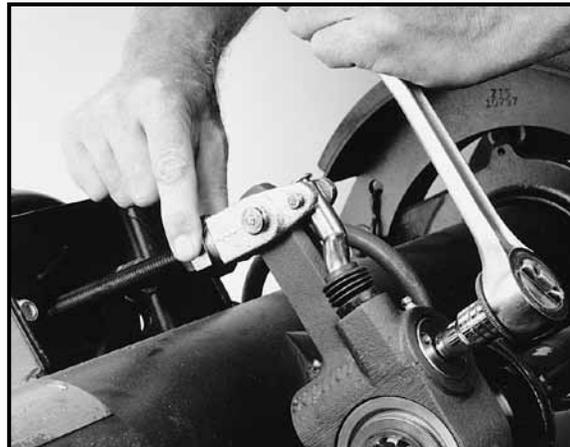

Figure 2 - Align the 1-1/4" collar nut with the threaded part of the clevis.
3. Using the wrench or socket, rotate the hex extension to align the 1-1/4" collar nut with the threaded part of the clevis. See Figure 2.